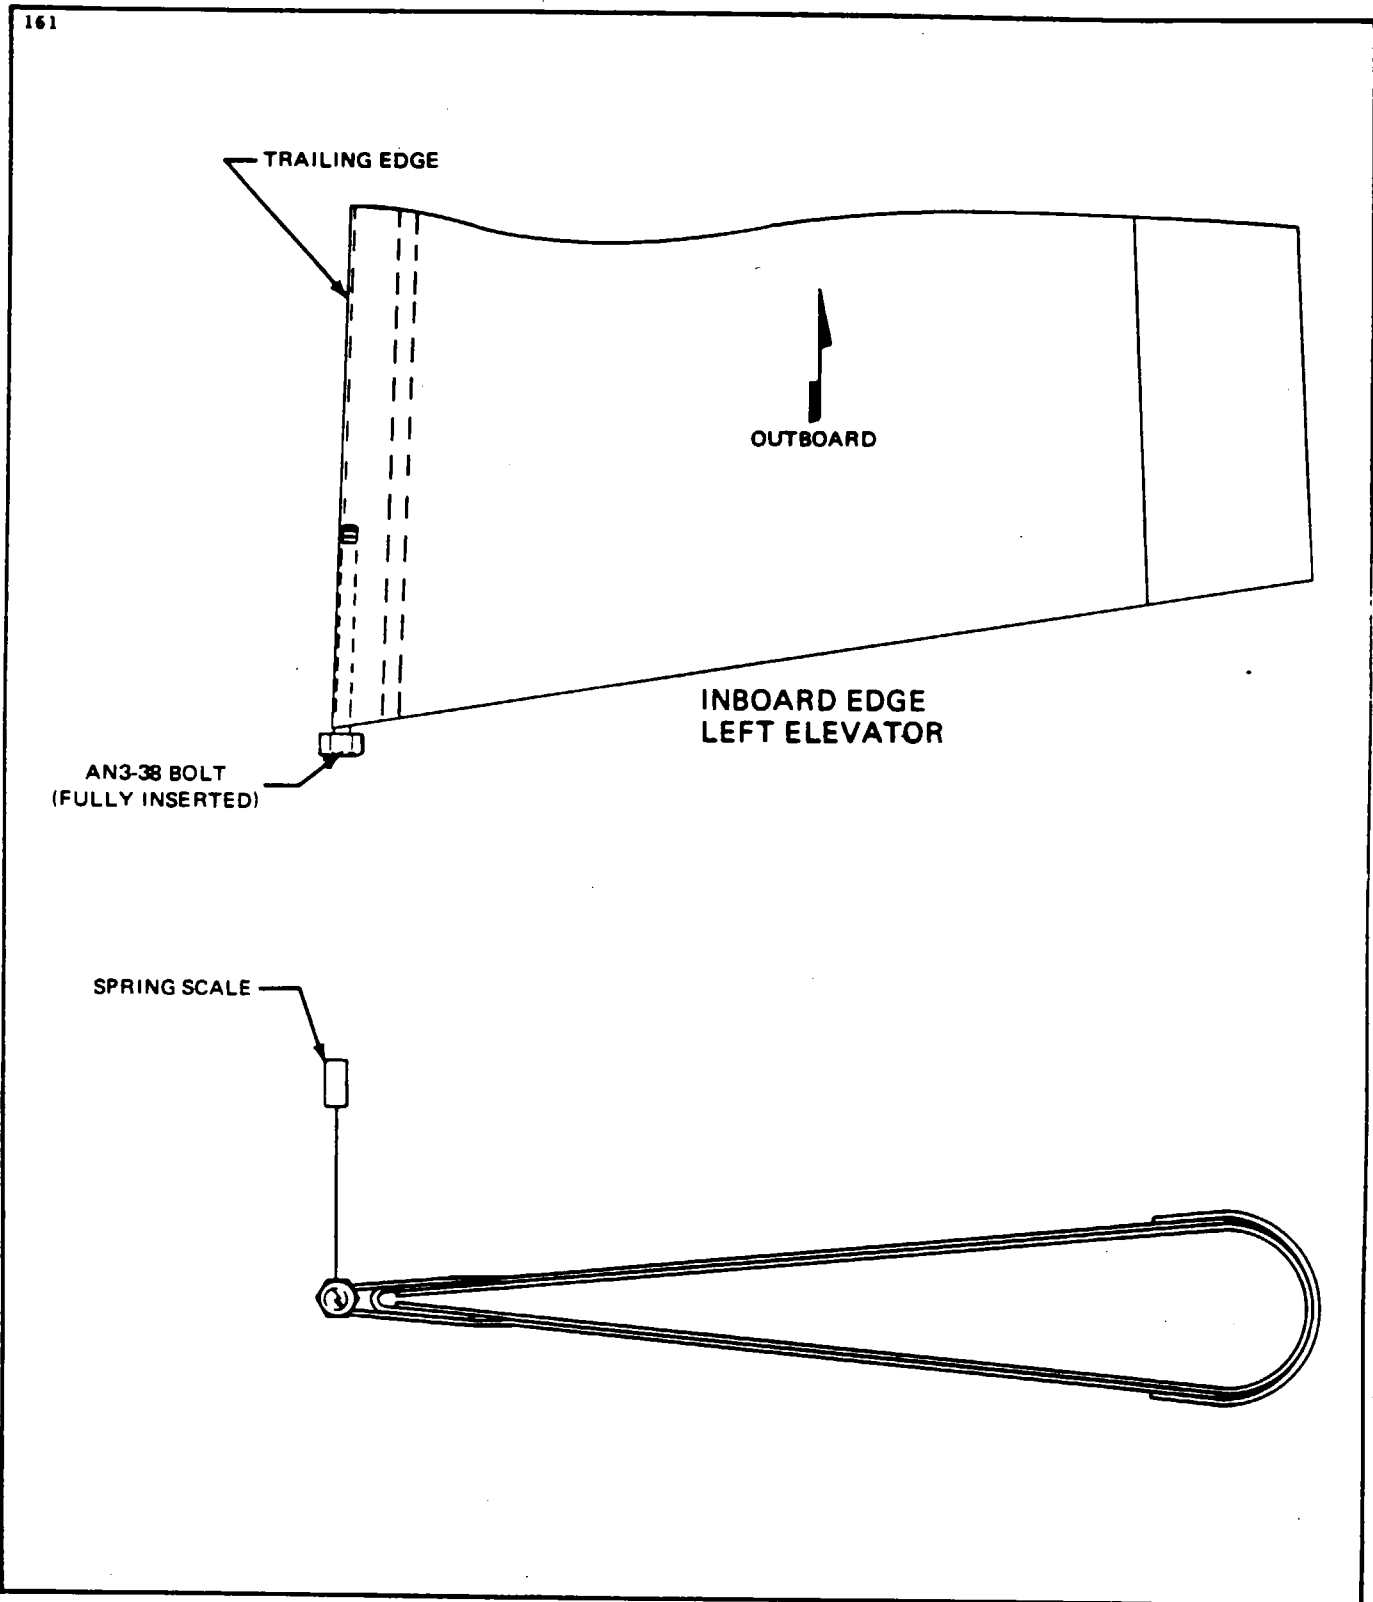

Figure 4-18. Friction Measurement
- a. Attach a spring scale to the inboard trailing edge of the elevator as shown in Figure 4-18.